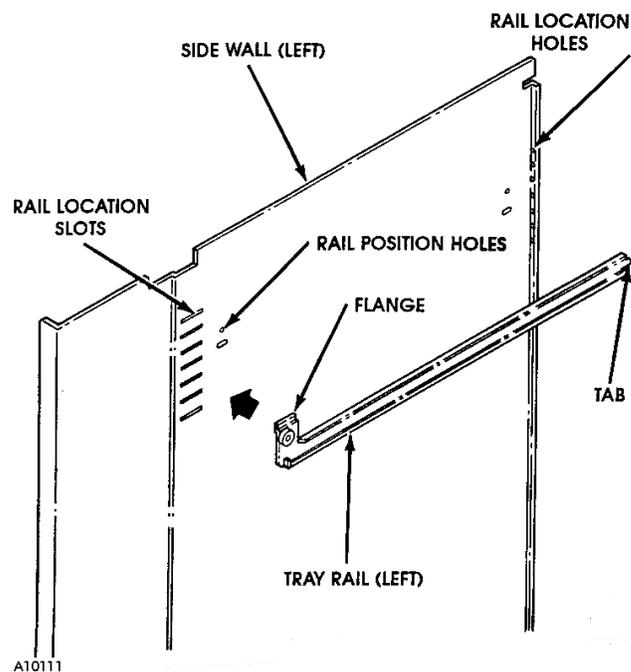

Figure 14
7. Pull each rail forward to disengage its rear tab from the hole in the rear wall. See **Figure 14**.